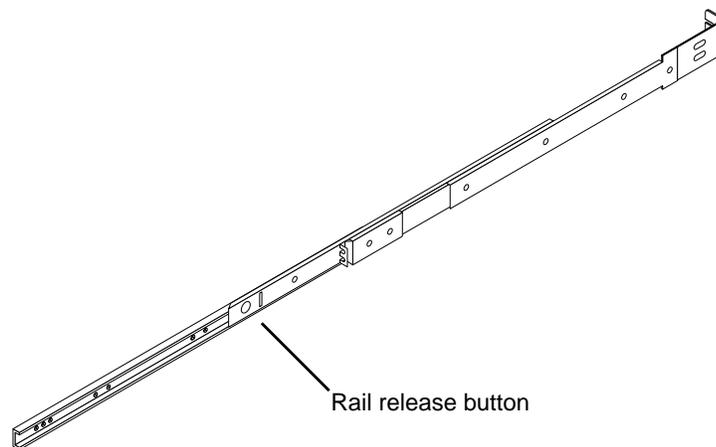

FIGURE 4-1 Rail Release Button on the Slide Rail
- c. **Press the rail release button in the center of the rail (FIGURE 4-1).**